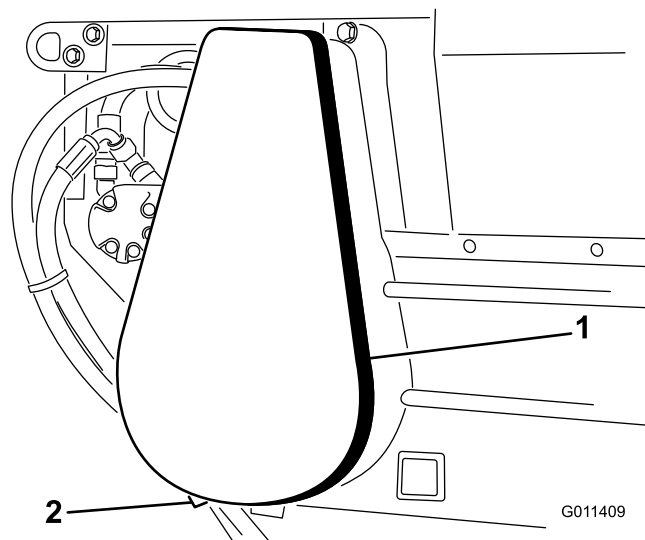

Figure 29
1. Remove chain cover assembly and spacer (Figure 29).